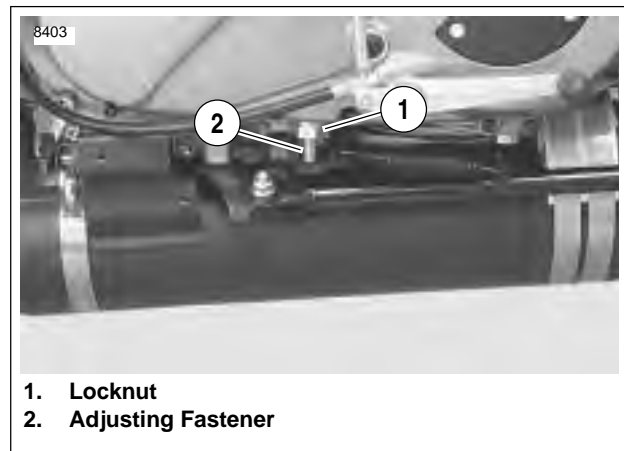

Figure 1-29. Chain Tension Adjusting Fastener
1. See Figure 1-29. Loosen locknut (1).
2. Turn adjusting fastener (2):
3. Tighten locknut (1) to 20-25 ft-lbs (27-34 Nm).